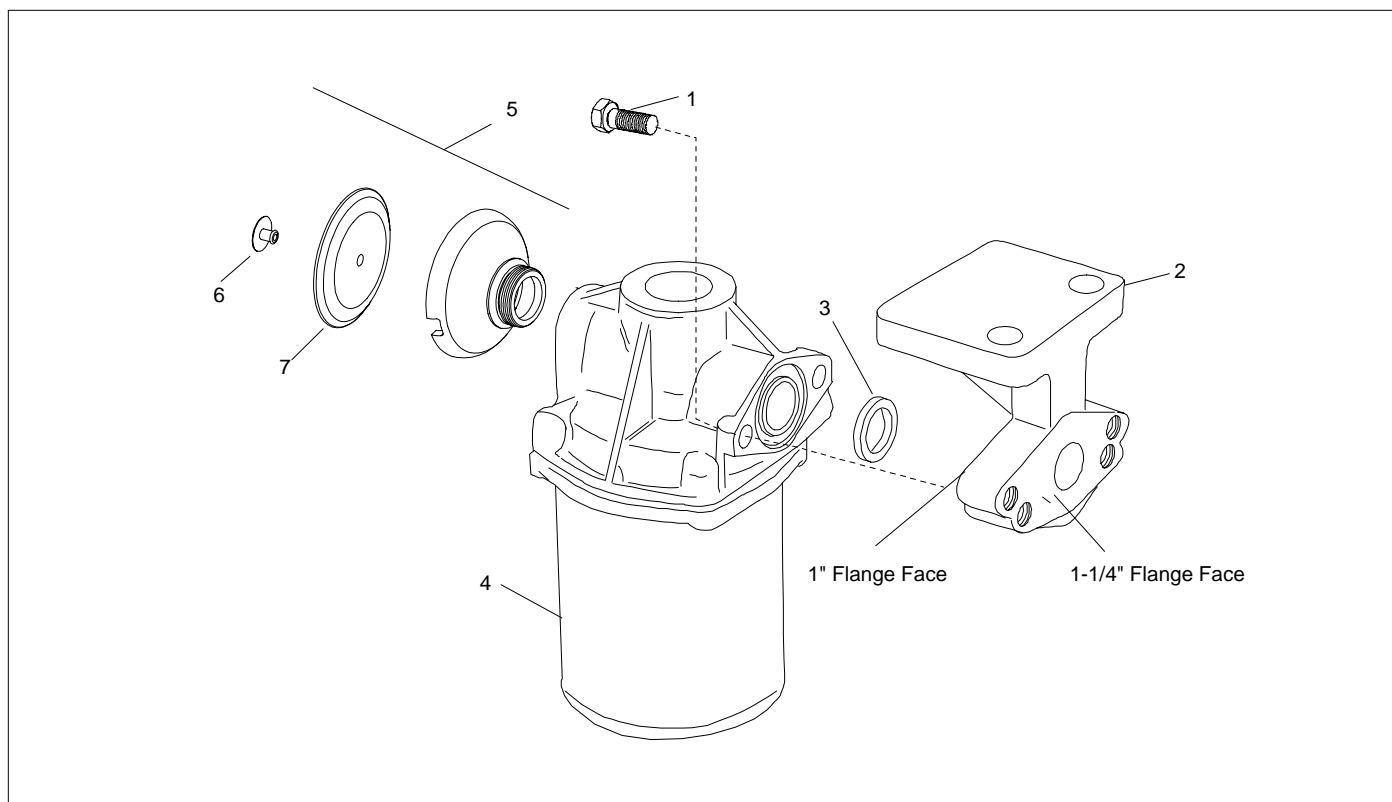

Figure 3 - #8 Vent Valve - Exploded View
8.5 Refer to Figure 3. The repair person will require the following items:
9.1.1 Referring to Figure 3, remove the vent protector assembly (5) from the body of the vent valve portion (4).
⚠ 9.2.4 VENT PROTECTOR ASSEMBLY (Figure 3)
(Figure 3)